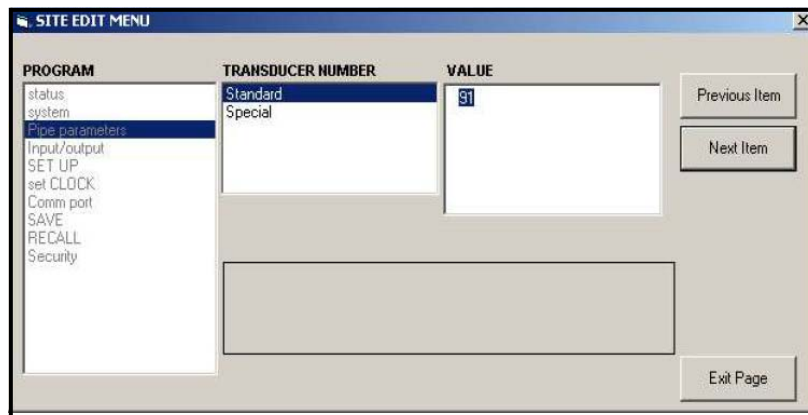

Figure 38: Pipe Parameters Option in the Site Edit Menu
- Highlight and double-click on the desired option in the left pane. *Figure 38* below shows the first entry (Transducer Number) in the Pipe parameters option. The title above the center pane lists the current entry, while the center pane displays the available selections for that entry.